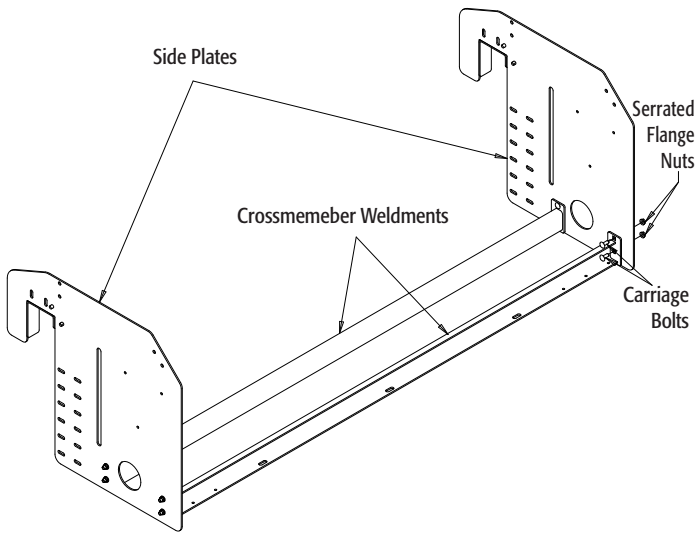

Fig. 2
2. Using (4)3/8 x 1" Carriage Bolts and (4)3/8" Serrated Flange Nuts, attach the Front (tailgate side) Crossmember Weldment to the Side Plates as shown in Figure 2.